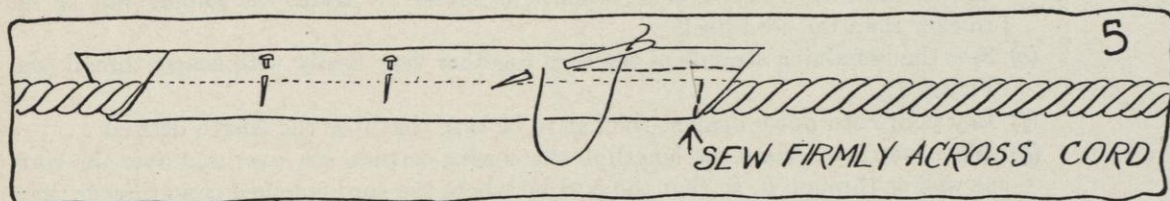

FIG. 5.
- e. Fold the bias strip over to the cable cord with the right side against the cord (and all seams outside if more than one strip is used); start from the center, work toward the left, and pin material over the cord as in Figure 5. **Keep the bias folded very even; otherwise the fold will twist.**
- f. Sew the bias *very firmly* right across the cord, as shown in Figure 5.